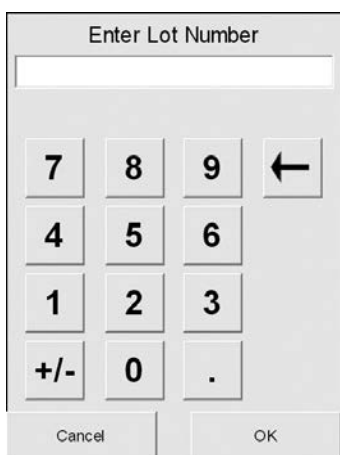

Fig. 6-5 Enter Lot Number
6. Enter the lot number of the Calibrator cassette located on the top surface of the cassette and press **OK** (Fig. 6-5).